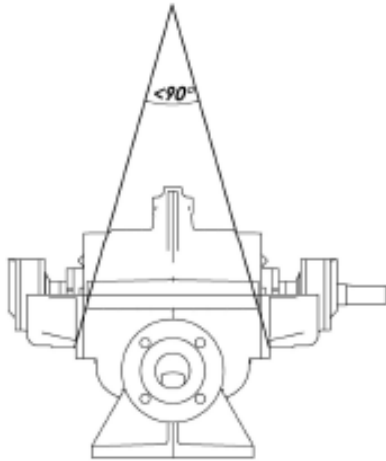

Figure 1 -1 Single Pump
- Pump should be hoisted as it is indicated in Figure 1 -1 and Figure 1 -2 for not causing any damage in pumps. Motor hanging ring should absolutely not be used while lifting complete group.